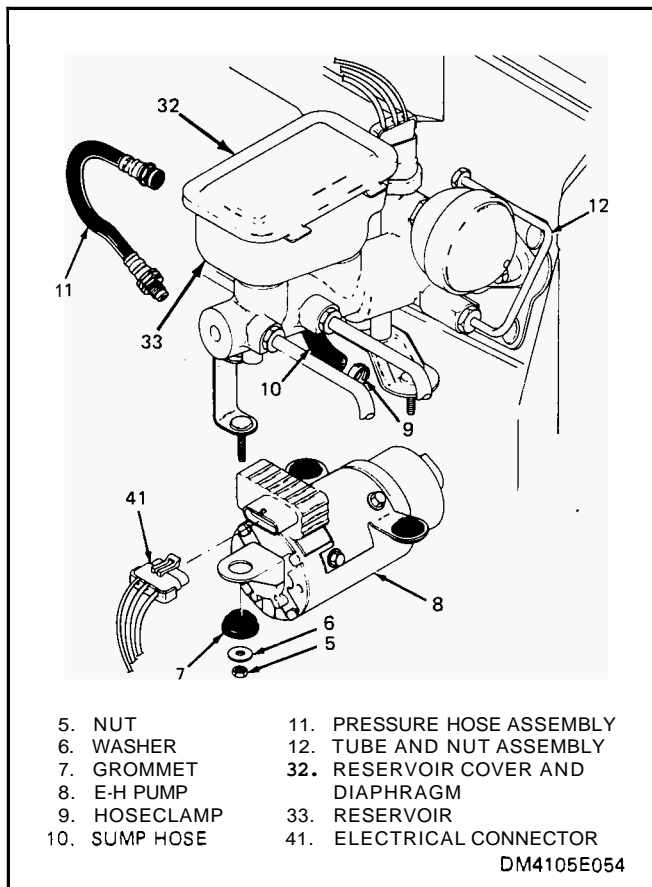

Figure 4 E-H Pump and Pressure Hose
1. Reservoir cover and diaphragm (32).
2. Hose clamp (9) and end of sump hose (10) connected to E-H pump (8). Drain reservoir pump sump.
3. Electrical connector (41) from E-H pump (8).
4. Pressure hose assembly (11).
- First, disconnect hose assembly (11) from tube and nut assembly (12).
- Disconnect other end of hose assembly (11) from E-H pump (8).
5. Three attaching nuts (5) and washers (6).
6. E-H pump (8).
- Grommets (7), and if damaged or deteriorated, replace. Be sure to install new grommets (7) as shown in figure 4.